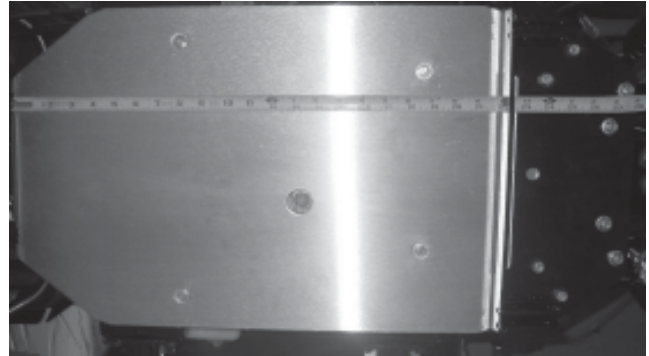

Figure 7
8. Place the plow mount on the skid plate with the bent portion of the mount facing the back of the skid plate as shown in figure 7.